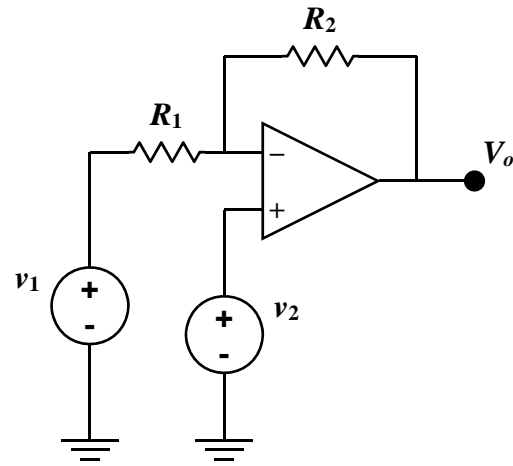

Figure 5.2
Figure 5.2 is a general configuration of a basic op-amp circuit. The two input signals v_1 and v_2 are not the DC Supply voltages (nor are v_1 and v_2 necessarily the same as v_n and v_p). Resistor R_2 is the **feedback resistor**.
For the circuit in **Figure 5.2**, it can be shown – i.e., **you** should be able to derive it – that the output voltage V_o as a function of the input voltages v_1 and v_2 is:
Other circuit configurations are possible, giving such circuits as: **summers** (e.g., when several v_1 - R_1 type signals enter the negative op-amp input terminal), **difference amplifiers** (e.g., **Figure 5.2**), **buffers** ($v_1=0$, $R_1 = R_2 = 0$), **integrators**, **differentiators**, etc. Thus the op-amp's name... it can be used to perform mathematical **operations**, and to **amplify** signals.
5. Consider the circuit in **Figure 5.2**. Using $v_1 = 1.5 \text{ V}$ and $v_2 = 1.0 \text{ V}$, and using the nominal values of resistors R_1 and R_2 for this experiment, determine the value of V_o .
6. Again consider **Figure 5.2** with the nominal values of R_1 and R_2 used in this experiment, and with supply voltages $V^+ = +15 \text{ V}$ and $V^- = -15 \text{ V}$. If $v_1 = 3.1$, determine the most positive and most negative values for v_2 without causing *saturation* if $v_1 = 2.0 \text{ V}$. Assume the output can actually reach $\pm 15.0 \text{ V}$.